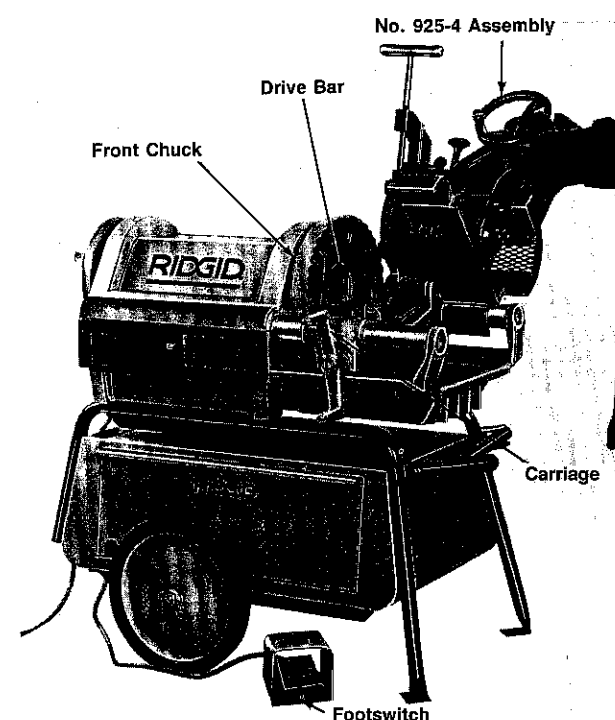

Figure 10. Installing No. 925-4
3. Place No. 925-4 on the far side Carriage Rail and lower onto rear side rail. (See Figure 10).